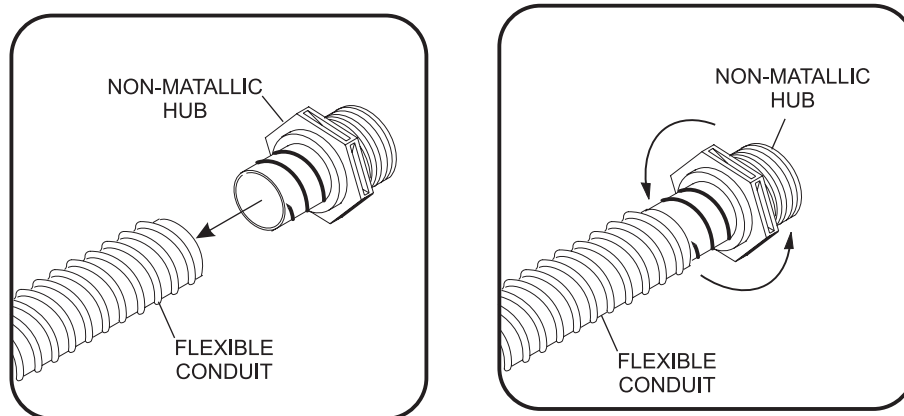

Figure 1
2. Twist the conduit onto the extra hub. Refer to *Figure 1*.